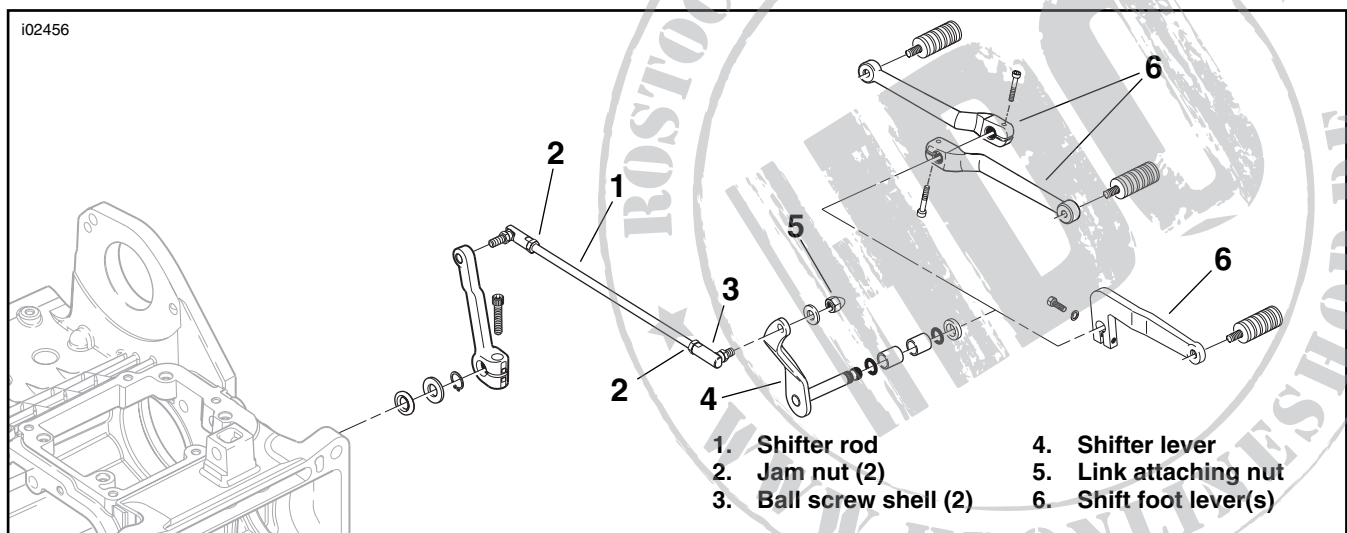

Figure 1. Stock Shifter Linkage
1. See Figure 1, below. Loosen the shifter-rod jam nuts (2).
2. See the Service Parts illustration (Page 2). Fasten the rear mounting bracket (4) on the engine side of the shifter rod between the ball screw shell at the rear end of the rod and the jam nut as shown. Torque the jam nut on the shifter rod to 80-120 **in-lbs** (9.0-13.6 Nm).
3. Fasten the front mounting bracket (3) on the bottom side of the shifter rod between the ball screw shell at the front end of the rod and the jam nut as shown. Torque the jam nut to 80-120 **in-lbs** (9.0-13.6 Nm).
5. See Figure 1 (below) and SHIFTER LINKAGE ADJUSTMENT in the Service Manual. To adjust the length of the linkage, remove the link attaching nut (5), lock washer and flat washer at the forward ball screw.
6. Loosen the jam nut (2) at the front end of the shifter rod, and remove the mounting bracket installed in Step 3. Rotate the forward ball screw shell to achieve the proper length to allow mounting of the cover.
9. Fasten the cover (1) to the mounting brackets using the two short screws (2) from the kit.